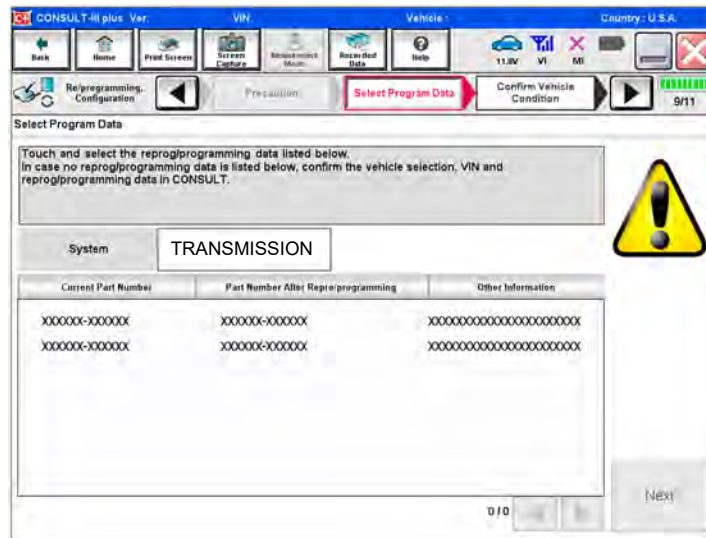

Figure 167
- If more than one new P/N is available, the screen in Figure 167 displays.